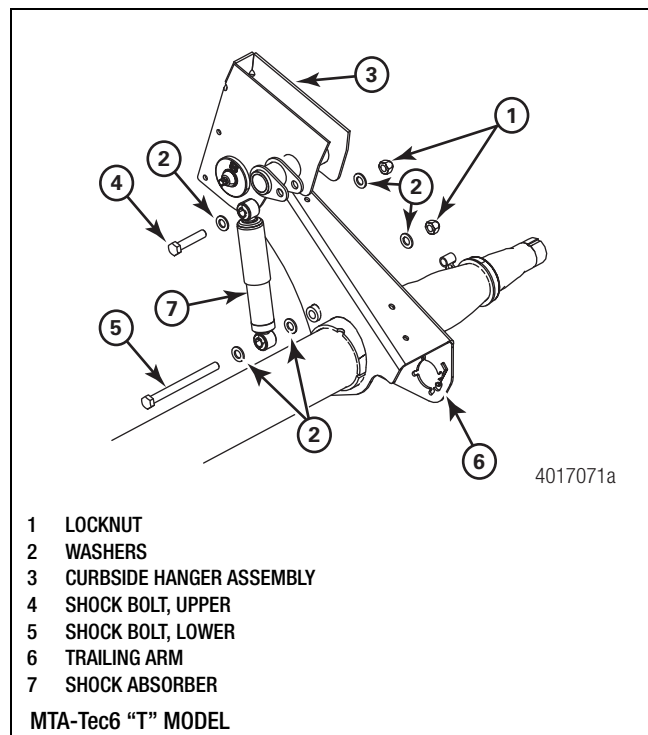
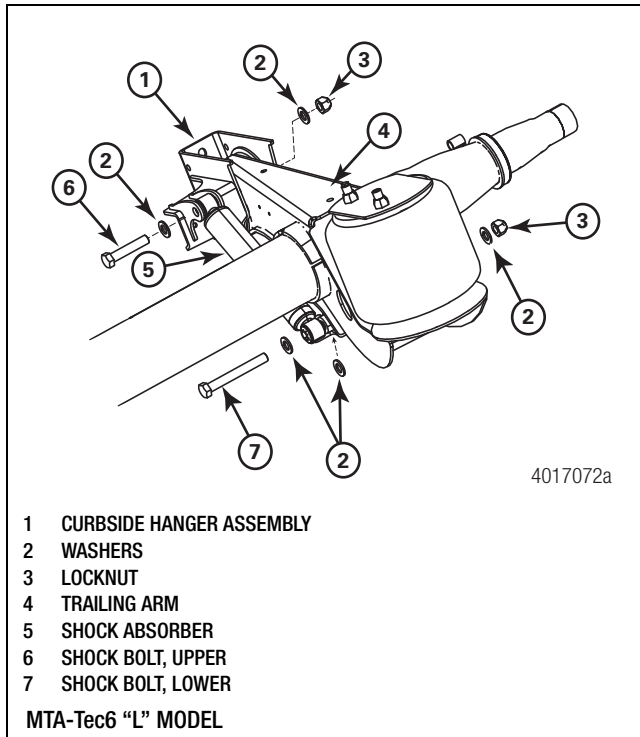

Figure 5.1
Figure 5.2
2. With the trailer correctly supported, remove the 3/4-inch nut and washer from the upper mounting. See Figure 5.1 for top mount and Figure 5.2 for low mount.
3. Remove the 3/4-inch nut and washer from the lower mounting. Remove the lower bolt and washer from the shock absorber. See Figure 5.1 for top mount and Figure 5.2 for low mount.
5. Install the new shock absorber onto the upper bolt. Install the washer and nut. See Figure 5.1 for top mount and Figure 5.2 for low mount.
6. Insert the bolt and washer through the lower shock absorber bushing. Install the washer and nut. See Figure 5.1 for top mount and Figure 5.2 for low mount.